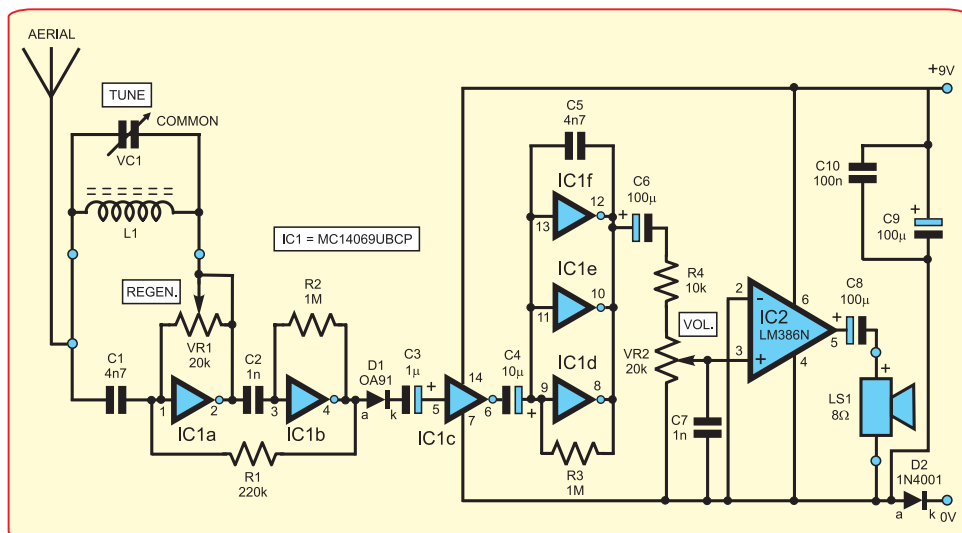

Fig.1. Experimenter's All-Band Radio
The circuit diagram shown in Fig.1 might be described as an 'AM radio without tears'. It is a robust little radio that should work no matter what – with virtually any tuned circuit, any aerial (or none at all), and without the need for an earth wire. It has good sensitivity, good selectivity, and modest power into a 1W RMS loudspeaker – or good power into headphones. While sound quality is modest, the circuit may be unmatched for economy and simplicity.
At the core of the circuit (Fig.1) is IC1, which serves both as receiver and preamplifier. Being a 4000-series CMOS IC, it is capable of operating (in theory) up to 5MHz, and in practice well above this. Therefore, the radio has a wide coverage – being capable of receiving long waves (LW) through to the short wave (SW) 41-metre band. Since this is a regenerative receiver, it will also (potentially) pick up single-sideband transmissions (SSB).